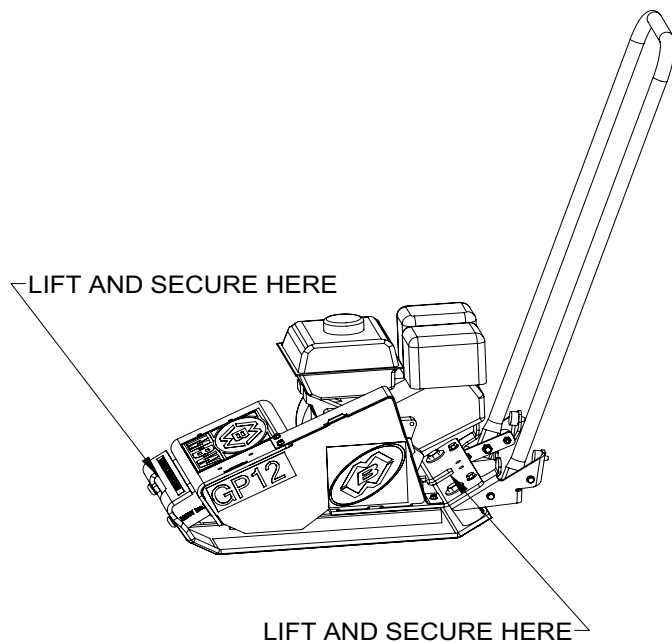

FIGURE 2
1. The unit can be lifted by the handles in front and back of the unit as shown in figure 2.